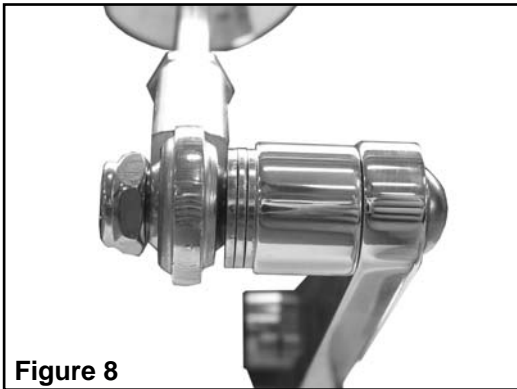

Figure 8
The rod end on the shift cylinder should be able to go past the point of mounting in each direction sidwise. The point of mounting is that flat surface upon which the rod end bolts to the Pingel shift lever bracket allowing for the thin flat ¼" washer(s) also. It is imperative that there is no side pressure or tension on the electric shift cylinder shaft when it meets its flat surface upon the Pingel shift arm lever washer where it is bolted as this would take away valuable power from the electric shift cylinder resulting in binding and missed shifts. If the rod end does not line up correctly you can either add 1 or more thin ¼" flat washer(s) to the existing washer(s) to move the rod end away from the shift arm lever, or remove 1 or more thin ¼" flat washer(s) to move the rod end closer to the shift arm lever. Note: (4) ¼" flat washers are supplied to aid in alignment. Install the ¼-28 x 2" button head socket cap screw through the shift arm bracket, the .623 o.d. x .250 i.d. x .4375 long aluminum spacer, the ¼" washer(s), the rod end of the electric shift cylinder and into ¼-28 locknut and tighten, see figure 8.